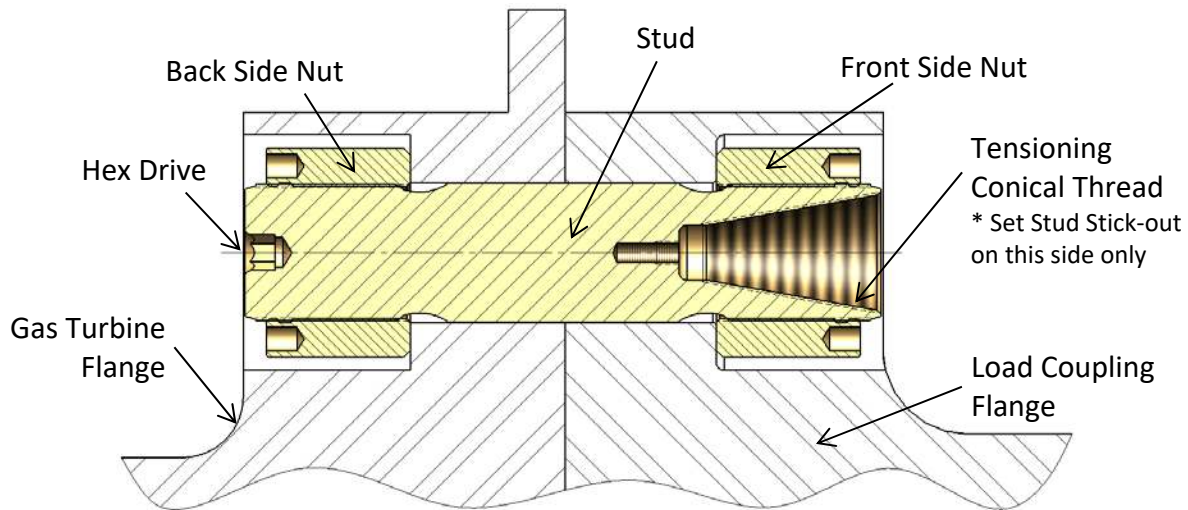

Figure 6A – Cross-section View of Gas Turbine to Load Coupling Bolted Flange Connection
4. Slide the stud and cylindrical nut assembly into the flange as shown in Figures 6A and 6B.